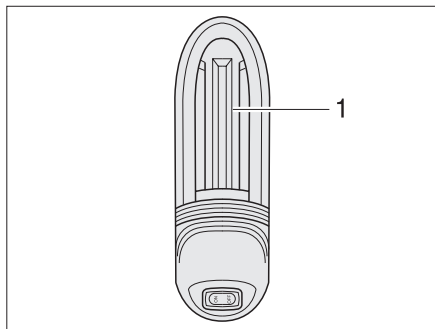

Fig. 198 Garage light
- ▶ Push the light covering (Fig. 198,1) up slightly and remove it.